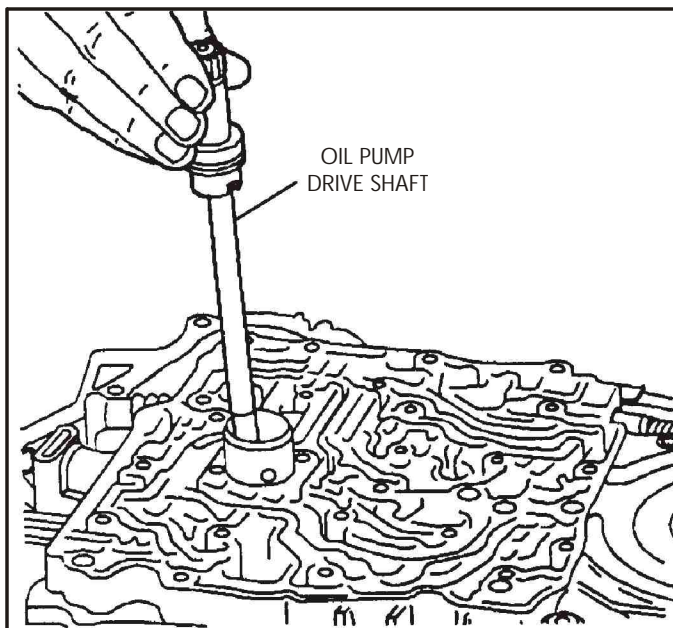

Figure 184
95. Install the oil pump drive shaft into case cover, as shown in Figure 184.